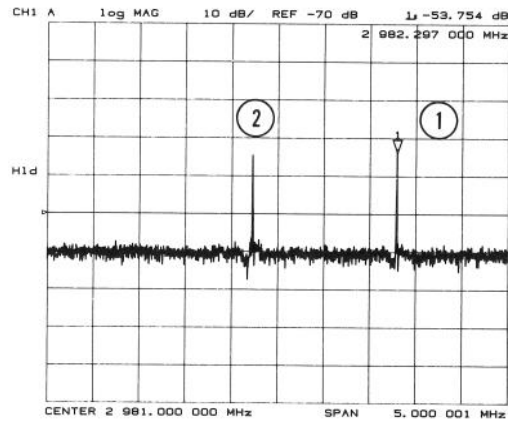
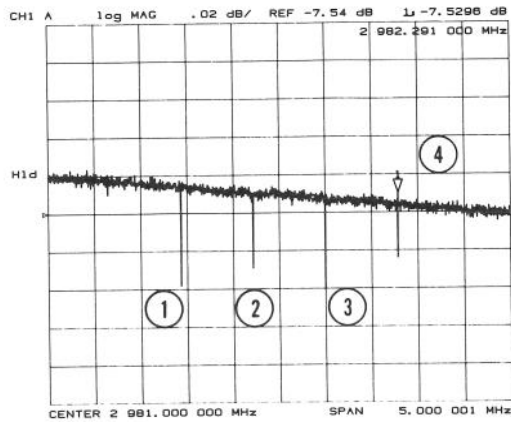

Figure 30. Typical Display of Spurs with Filter.
Figure 31. Typical Display of Four Spurs without Filter.
6. Press **[NEXT]** repeatedly. Watch the trace on each sweep and try to spot the target spur. With the filter, the target spur will be one of two obvious spurs (see Figure 30). Without the filter (not recommended), it will be one of four or five less distinct spurs as shown in Figures 31, 32, and 33. When the center frequency increases to 2994.999 MHz, "Cav Osc Cor FAIL" will appear on the display.
- Press **[EXECUTE TEST]** **[YES]** and **[CONTINUE]** to reenter the cavity oscillator frequency routine. Then press the softkeys as required to observe and mark the target spur. With the filter, the target spur will appear to the right of a second spur, similar to Figure 30.
Without the filter, the target spur usually appears as one of a group of **four evenly spaced** spurs, as in Figure 31. The target spur is the right-most spur (fourth from the left). On any particular sweep one, any or all of the spurs may be large, small, visible, invisible, above or below the reference line.